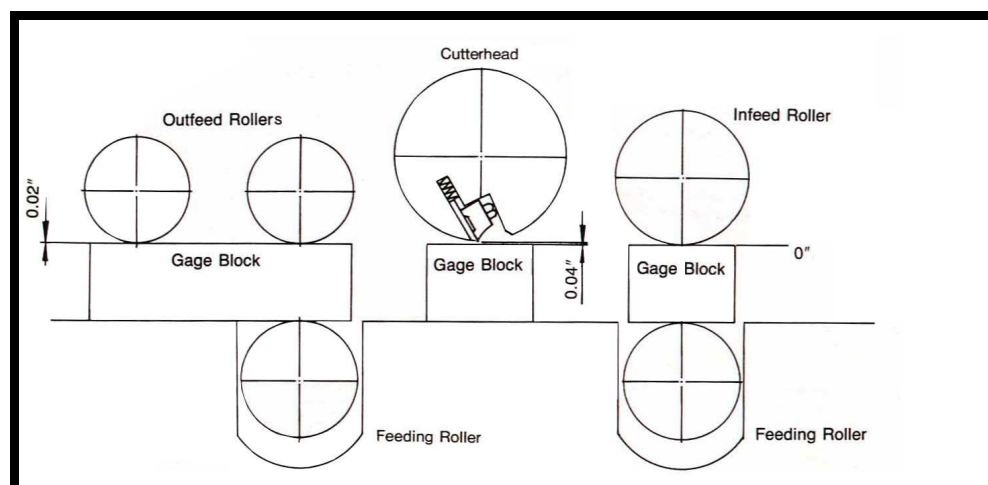

Fig. 15
4. If an adjustment to the outfeed roller is necessary, loosen the lock nut (A) and turn screws (B) until the outfeed roller just touches the square block. Then tighten lock nut (A) as shown in Fig. 15.